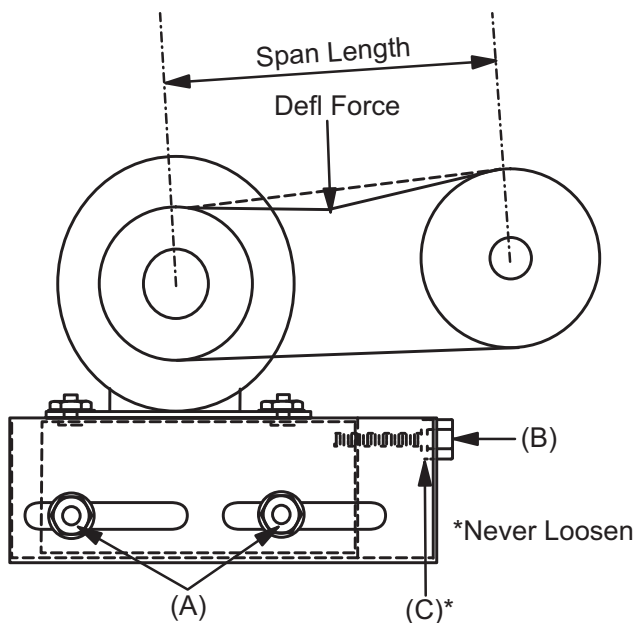

Figure 20: Belt Adjustment
2. The tension on the belt should be adjusted as shown in the Belt Adjustment Figure 20.